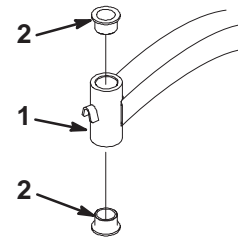

Figure 74
4. Insert a pin punch into the mounting tube and carefully drive out the bushings (Fig. 74). Clean the inside of the mounting tube.